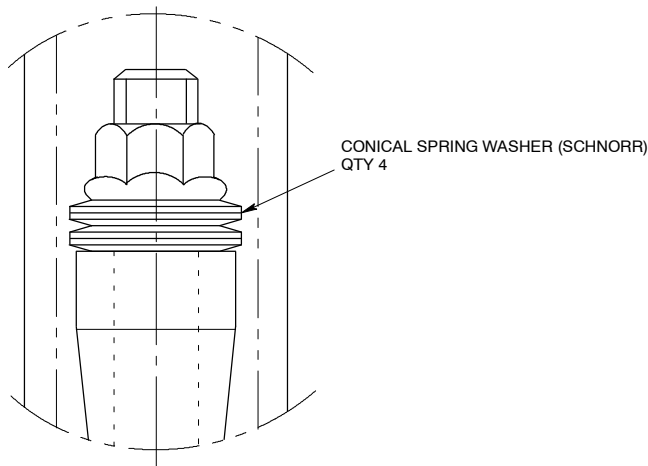

Figure 3 Conical Washer Installation
- (6) Refit Exhaust Stub Nozzle and Clamp Ring Halves to the aircraft in reverse order to their removal, observing the correct assembly of the bolt, nut and conical spring washers, including the additional pair, as per Fig 3. Use anti-seize compound on bolt threads.
- (7) Tighten the clamp attachment nuts until the conical washers are bottomed-out, as indicated by a noticeable increase in torque. Back-off each nut from this point by one turn.
- (8) Refit the lower engine cowl.